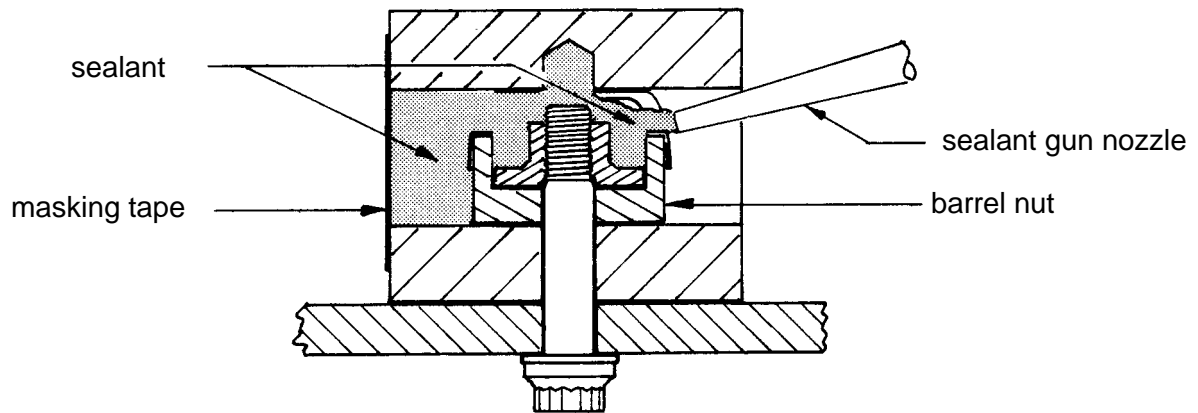

Figure 4 - Potting Barrel Nut Holes
- Step 3. Apply the sealant using an air operated sealant gun fitted with a 1/16" to 1/8" dia. nozzle according to PPS 21.21 to both sides of the barrel nut hole, starting at the centre and working outwards so as to completely fill the hole as shown in Figure 4. Take care to ensure complete filling of the hole and to avoid the entrapment of air.
- Step 4. If necessary, use masking tape as shown in Figure 4 to form the sealant flush with the end of the hole. Do not remove the tape until completion of the tack free time as specified in PPS 21.20.